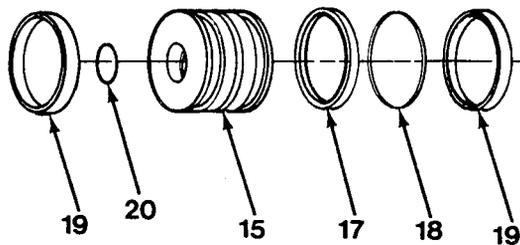

Figure 13-6
3. Install two wear rings (19), expander ring (18) and seal (17) to outside of piston (15, Figure 13-6).
4. Install O-ring (20) on inside of piston (15).